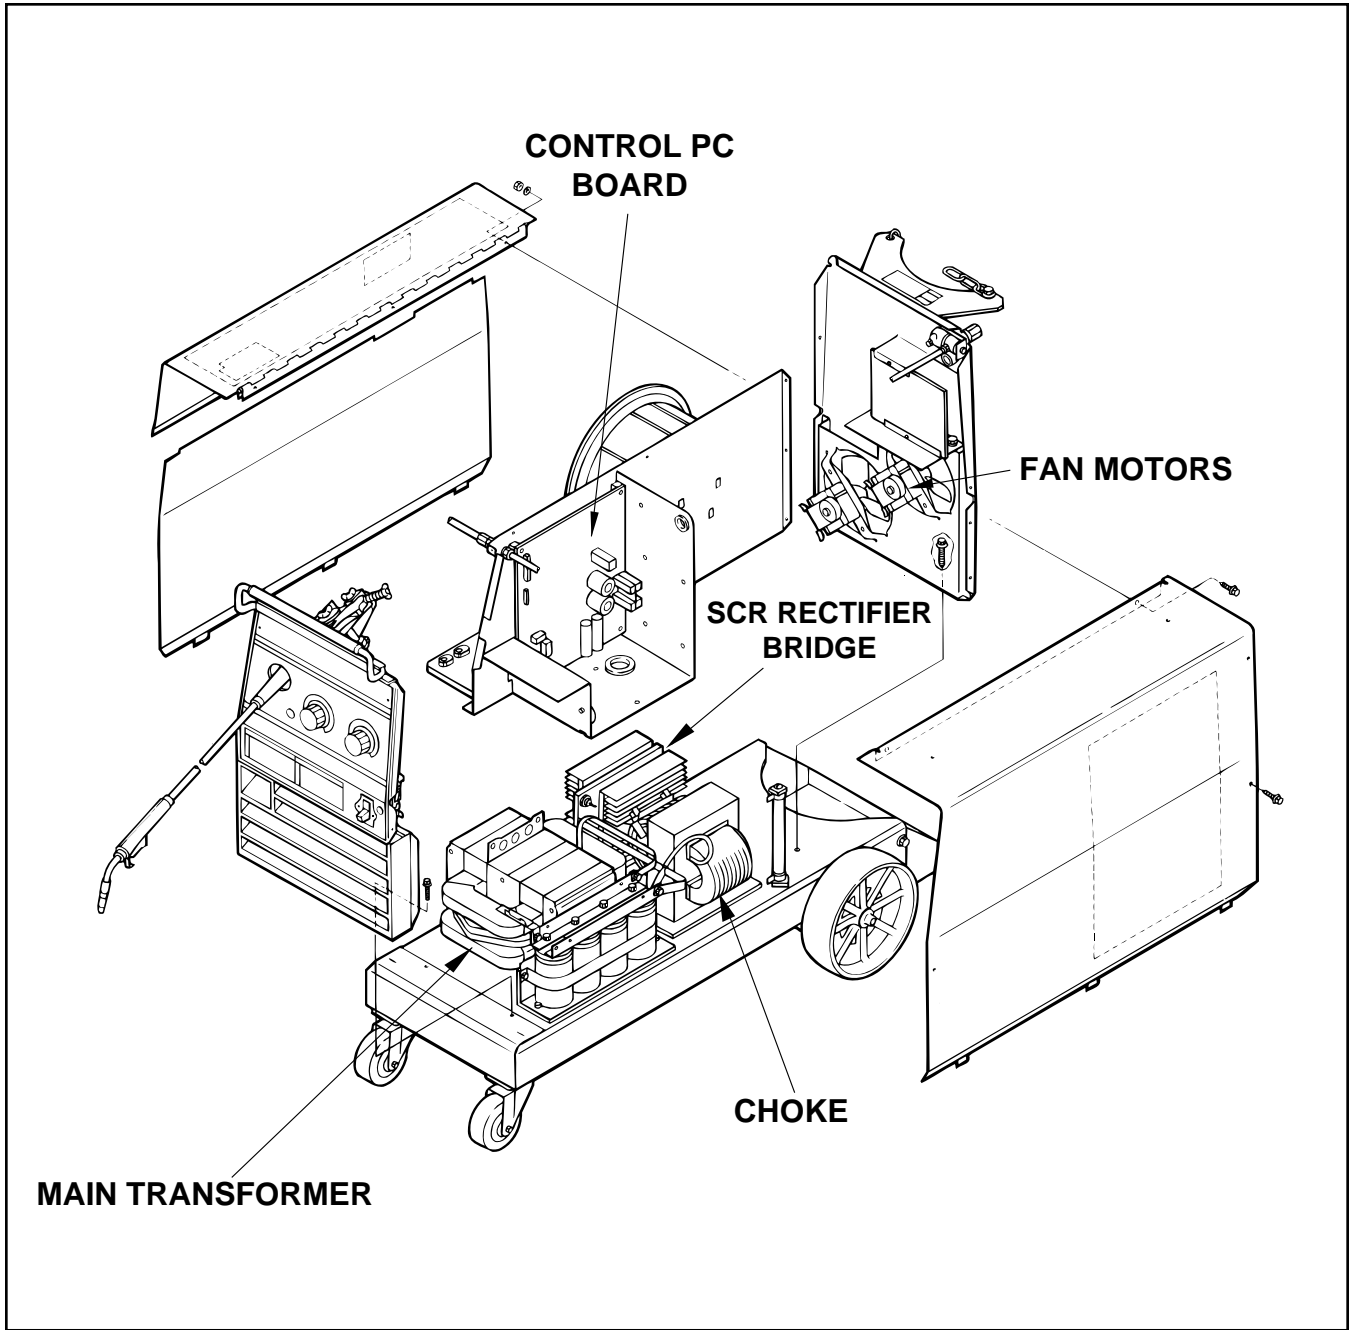

Figure D.1 - Component Locations.
1. Disconnect input AC power supply lines to the machine before performing periodic maintenance, tightening, cleaning, or replacing parts. See Figure D.1.
Clean the inside of the machine with low pressure air stream. Clean the following parts. Refer to Figure D.1.